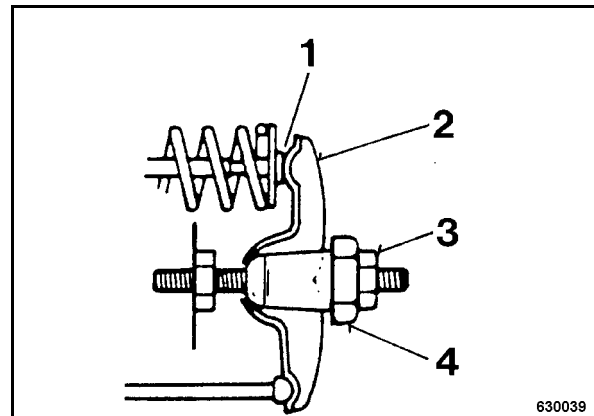

Fig. 50
- Hold hexagon nut (4) (Fig. 50) on the rocker lever and loosen counter nut (3).
- Adjust hexagon nut (4) on the rocker arm so that the feeler gauge fits between rocker arm and valve shaft (1) with noticeable resistance after retightening counter nut (3).